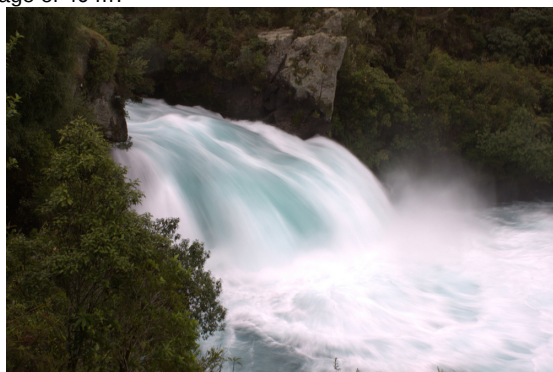

Figure 12.29 The Huka Falls in Taupo, New Zealand, demonstrate flow rate. (credit: RaviGogna, Flickr)
38. The Huka Falls on the Waikato River is one of New Zealand's most visited natural tourist attractions (see **Figure 12.29**). On average the river has a flow rate of about 300,000 L/s. At the gorge, the river narrows to 20 m wide and averages 20 m deep. (a) What is the average speed of the river in the gorge? (b) What is the average speed of the water in the river downstream of the falls when it widens to 60 m and its depth increases to an average of 40 m?